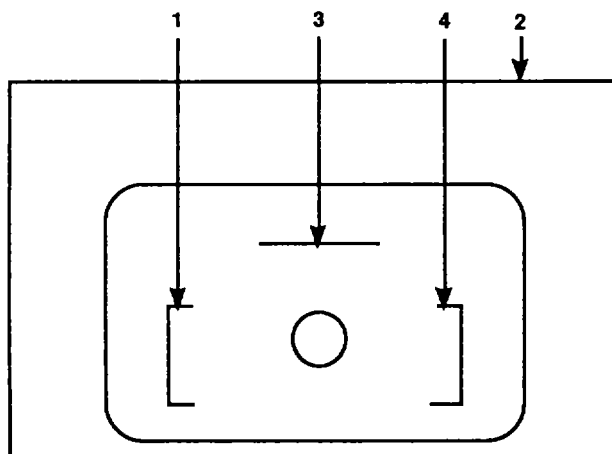

Figure 4-75. Condensate Drain Coil Test Points
2. Using a multimeter on 200 ohms, check for resistance (figure 4-75).